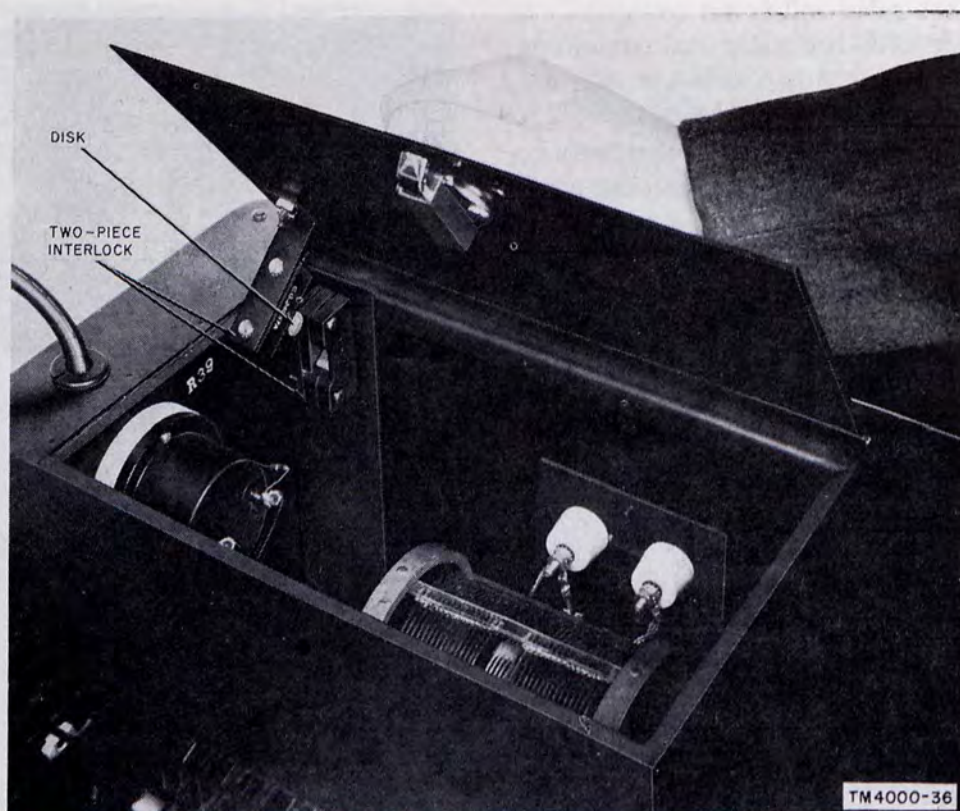

Figure 7. Equipment access cover, showing two-piece interlock switch.
c. Another type of interlock (fig. 7) does not control the current flow through a relay but is wired directly into the power circuit. When a panel door is opened, the disk of the interlock comes out of the receptacle and the power is interrupted. Always turn off all power switches and discharge all filter capacitors with a shorting stick before working on the equipment.